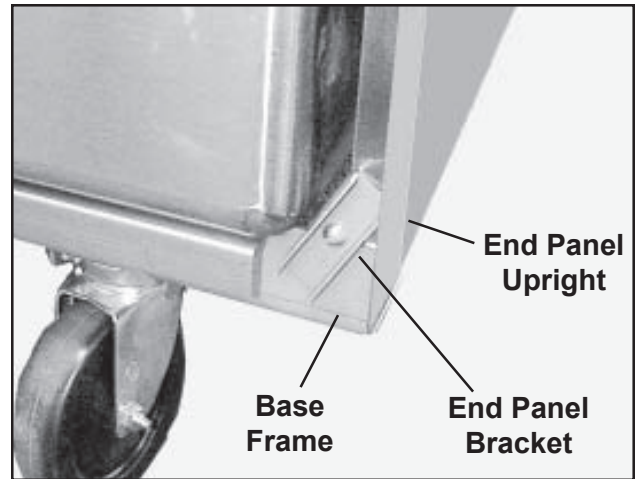

Figure 45. Bracket on Lower End of Upright
4. Repeat *Steps 1* through *3* to install a bracket between the base frame and the upright. **Note:** You will have to place the bracket at an angle (Figure 45).